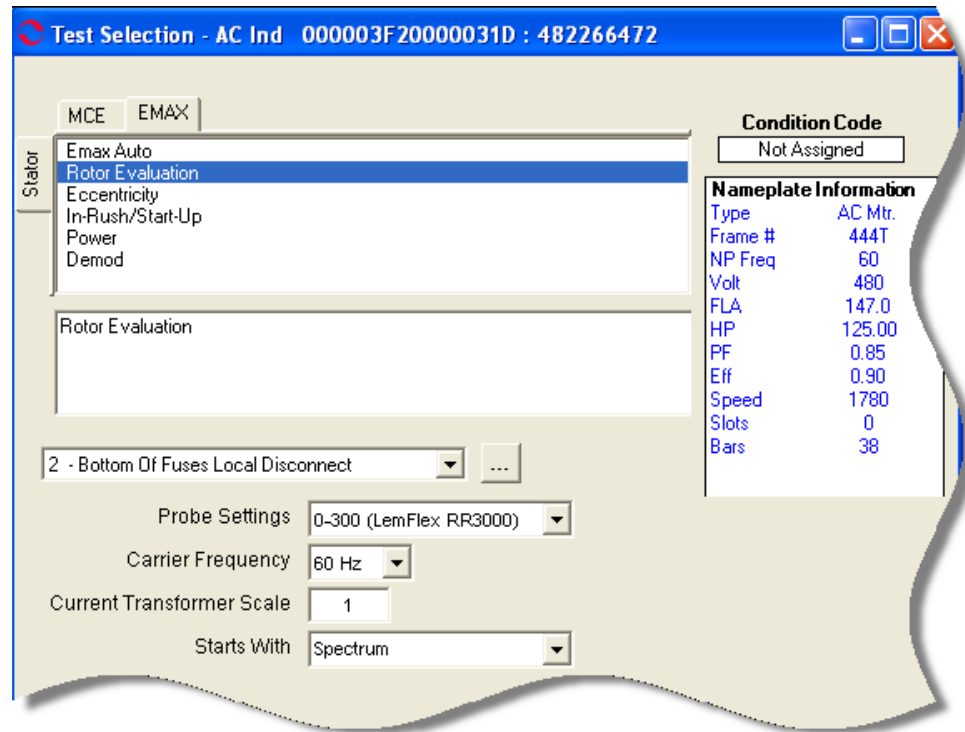

Figure 6-20: Rotor Evaluation Test Selection Window
- Select the Test Selection icon  on the toolbar. The Test Selection window, shown in Figure 6-20 opens.